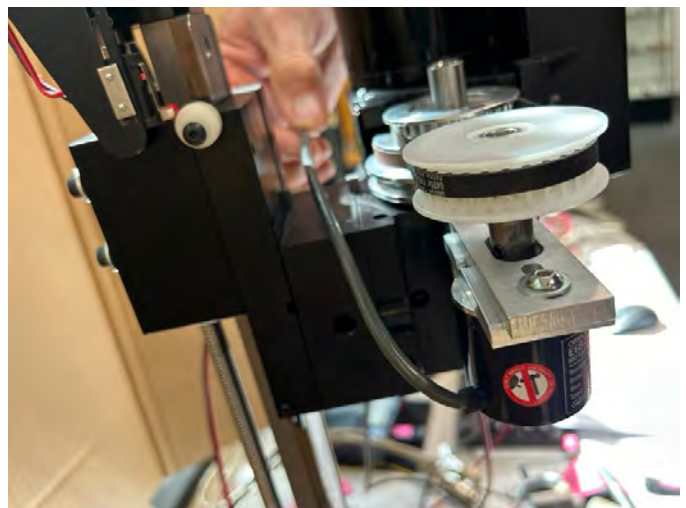

FIGURE 32
- Encoder Cable:** Feed the encoder cable behind the spindle pulley and the DC motor (see Figure 32).